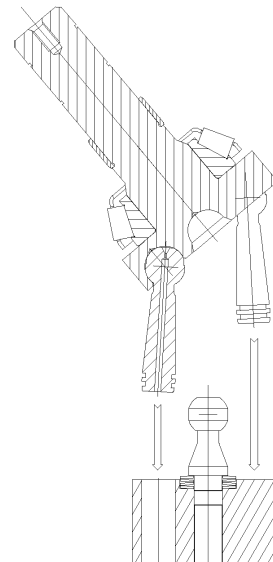

Fig.7.
- 8 - Install the drive shaft equipped with the pistons into the cylinder barrel. Fig.7.